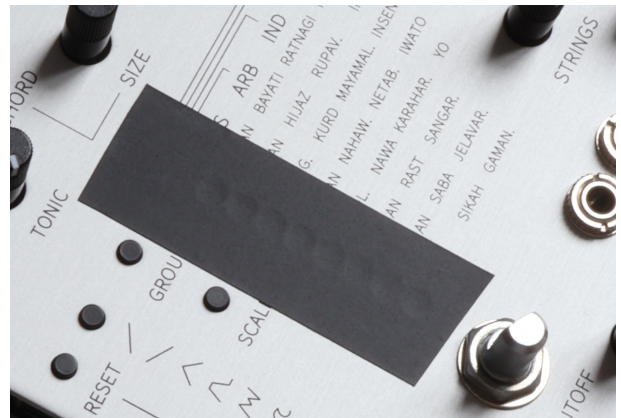

Figure 5: Taped LED holes
3. Use a masking tape on the portion of the panel with holes for LEDs, see Figure 5. Push the LEDs against the tape, so they are even with the panel surface.